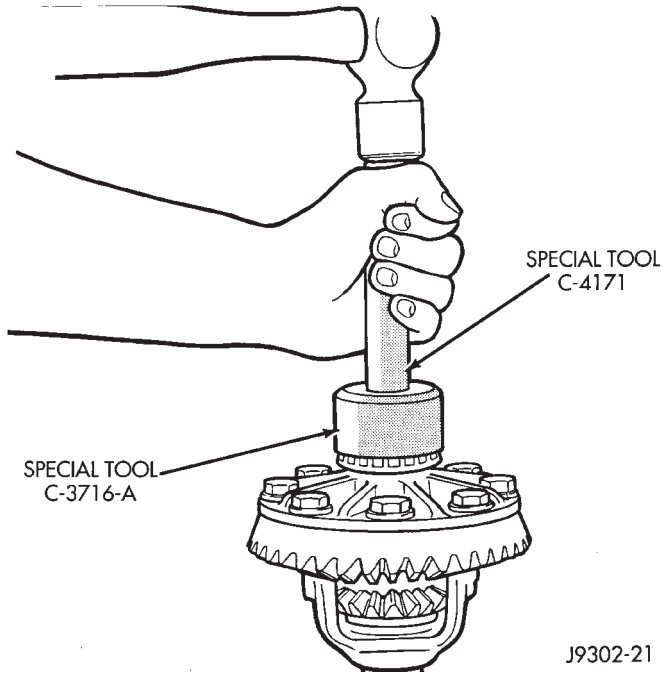

Fig. 24 Differential Side Bearing Installation
- (1) Install differential side bearing shims onto differential case hubs.
- (2) Using Installer C-3716-A and Handle C-4171, install differential side bearings (Fig. 24).